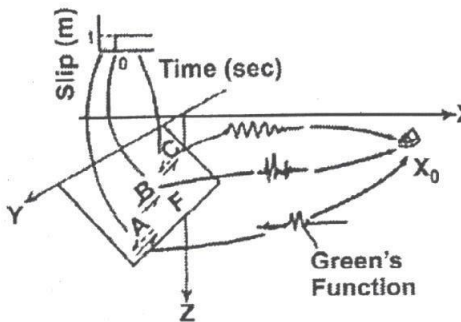

Fig. 5.13
3. For each plot (graph), depictions of Green's functions in an x,y,z Co-ordinate system was made as shown in Fig. 5.13.
4. From Fig. 5.13, we can see that the individual points on the fault surfaces at A,B,C,...F undergo instantaneous unit-amplitude slip resulting in ground motion (Green's functions) at observation point X_0 .